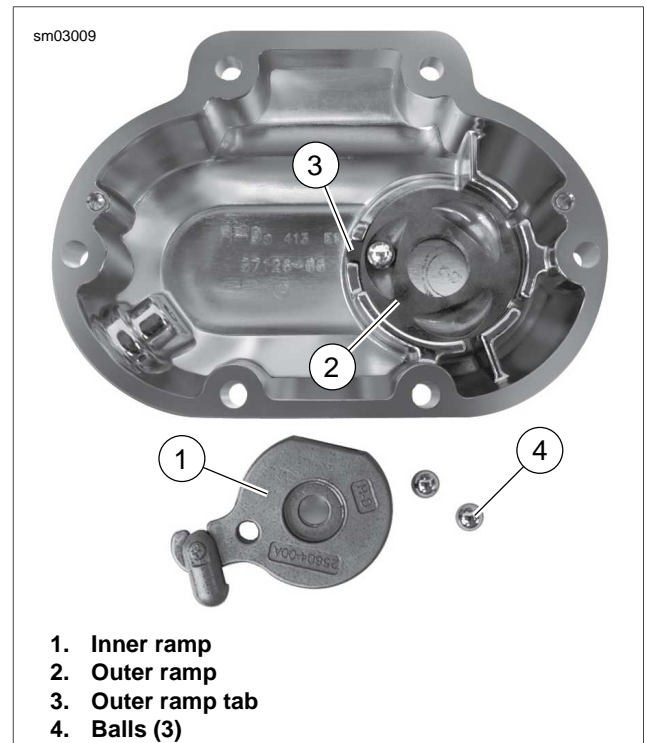

Figure 7-5. Coupling and Ramp Assembly
7. See Figure 7-5. Remove balls (4) and outer ramp (2).